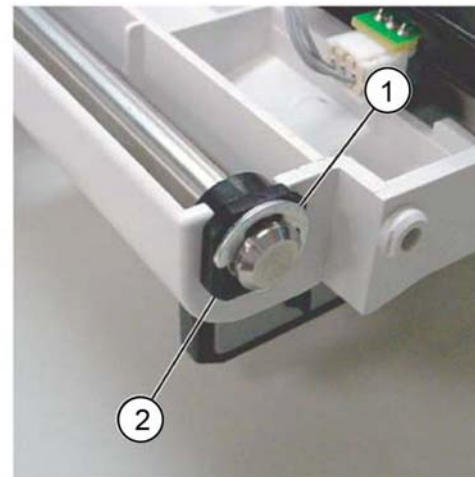

Figure 2 Bearing removal
4. Remove the bearing, Figure 2:
- a. Remove the E-clip (1).
- b. Remove the bearing (2).